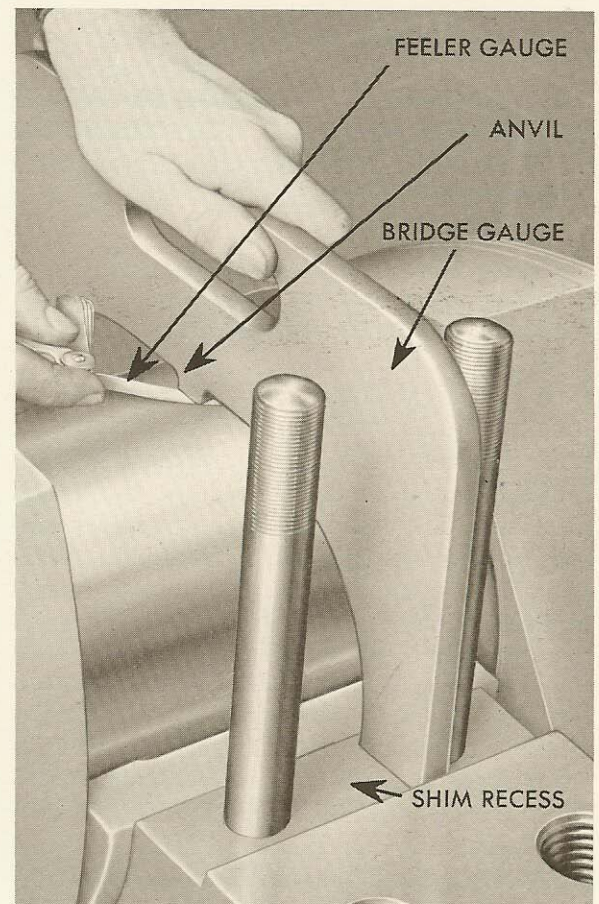

FIGURE 14-8
15. BRIDGE GAUGES: Most new engines are supplied with bridge gauges. This is the device shown in Figure 14-8 and it is simply an arched piece of metal which sets into the shim recess on each side of a main bearing.